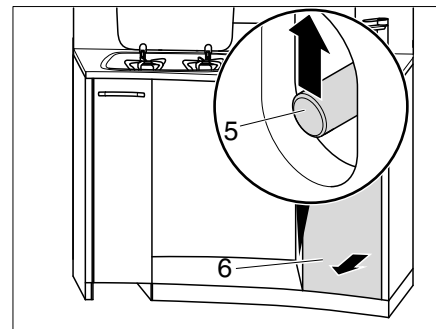

Fig. 134 Unlocking high kitchen drawers
- Grasp through the opening and slide the push rod (Fig. 134,5) upwards.